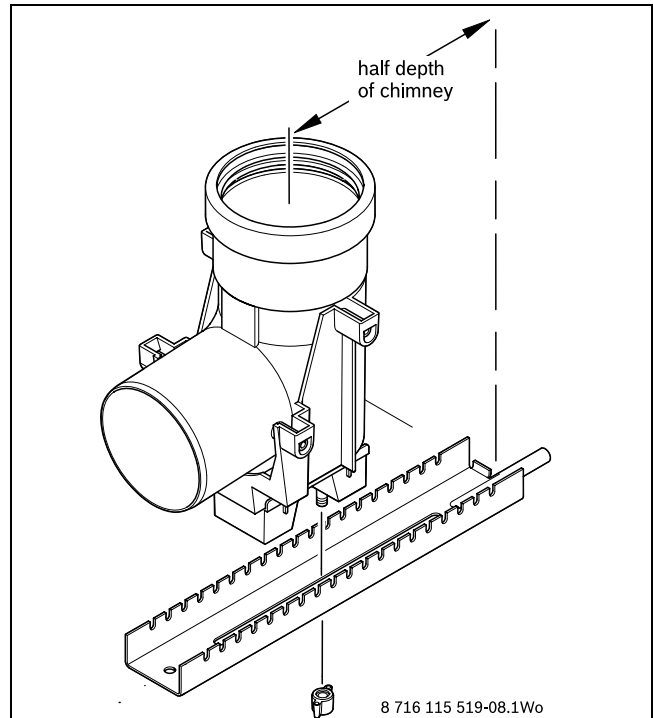

Fig. 9 Fitting the elbow onto the elbow support
- ▶ Position the elbow centrally on the elbow support as shown in fig. 9.